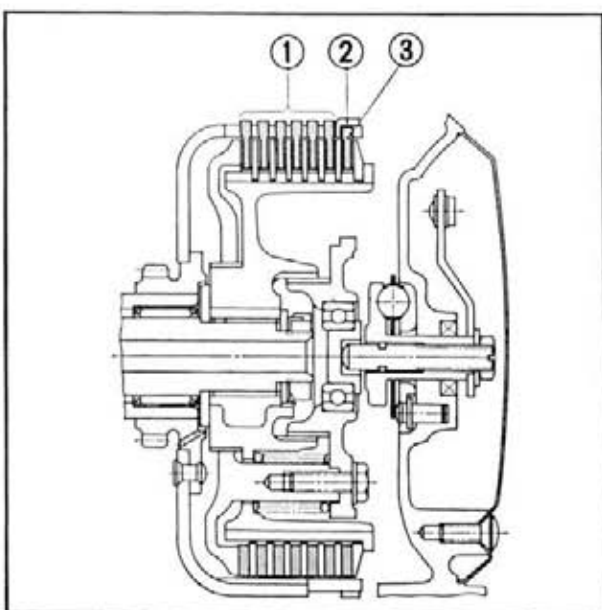

Fig. 4-5 ① Clutch friction disc A
② Box wrench
4. Remove the clutch friction disc B and clutch outer ring from the clutch outer and then remove the friction discs A and clutch plates. (Fig. 4-5)
2. Assemble the six friction discs A (outer diameter 151 mm), clutch plates and the clutch center into the clutch outer and then install the clutch outer ring. (Fig. 4-5)
3. Assemble the friction disc B (outer diameter 148.5 mm). (Fig. 4-5)